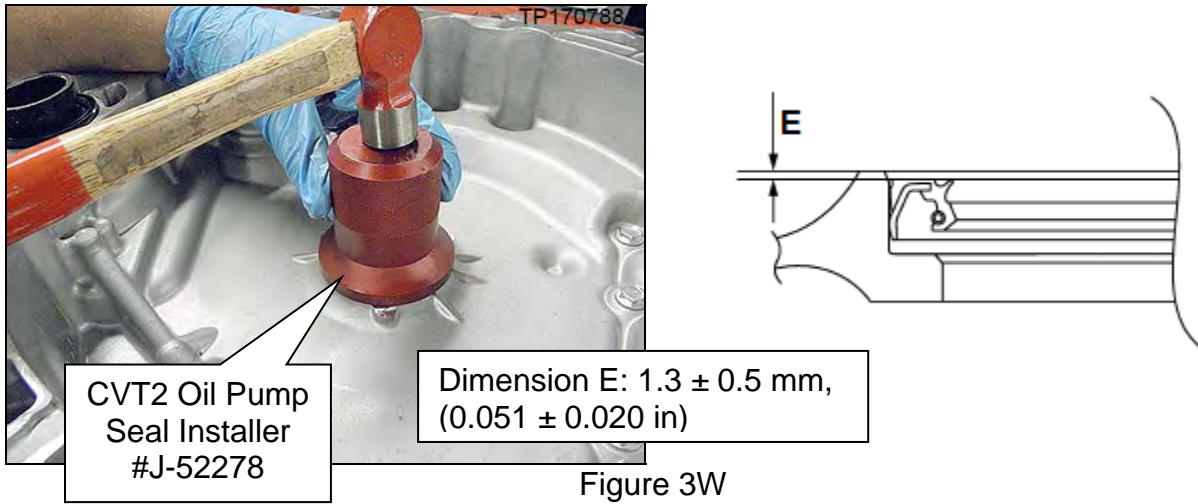

Figure 3W
3. Install the torque converter housing oil seal to the torque converter housing (Figure 3W).
- Drive the converter housing oil seal evenly so that converter housing oil seal sits below the case by Dimension E as shown in Figure 3W.